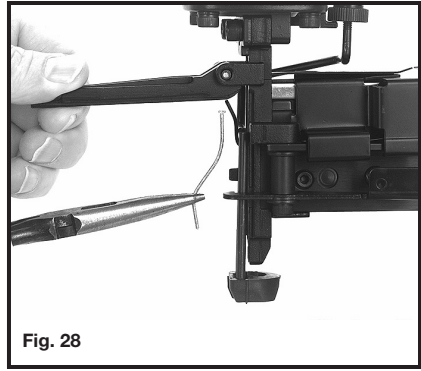

Fig. 28
4. Remove the jammed fastener (see Fig. 28).